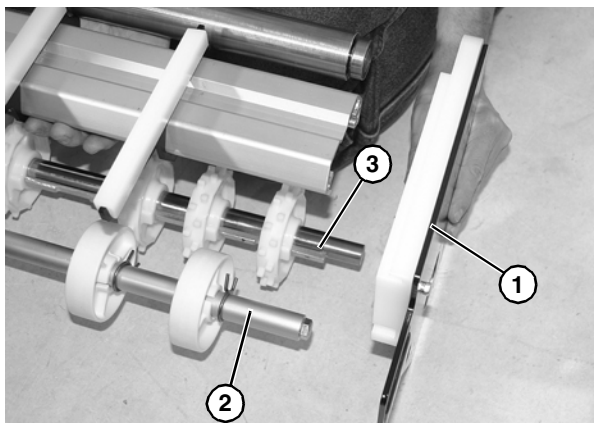

Figure 59
11. Remove end plate (Figure 59, item 1), and remove lower roller assembly (Figure 59, item 2) from end plate and opposite end plate.
12. Remove drive spindle (Figure 59, item 3) from terminal assembly.